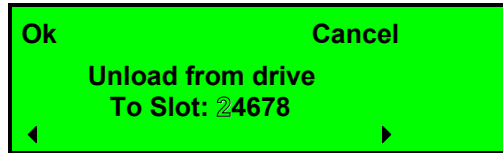

Figure 4.12 Unload From Drive
1. From the default display, press the menu button and select *Unload from Drive* from the main menu. A screen similar to Figure 4.12 displays the available slots.